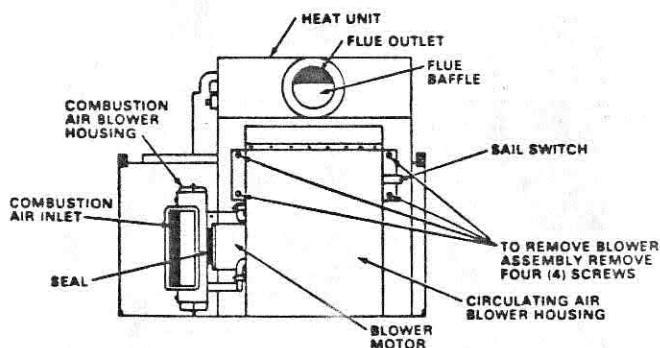

Figure 23
4. Remove 4 screws holding blower assembly to heat unit. (See figure 23.)